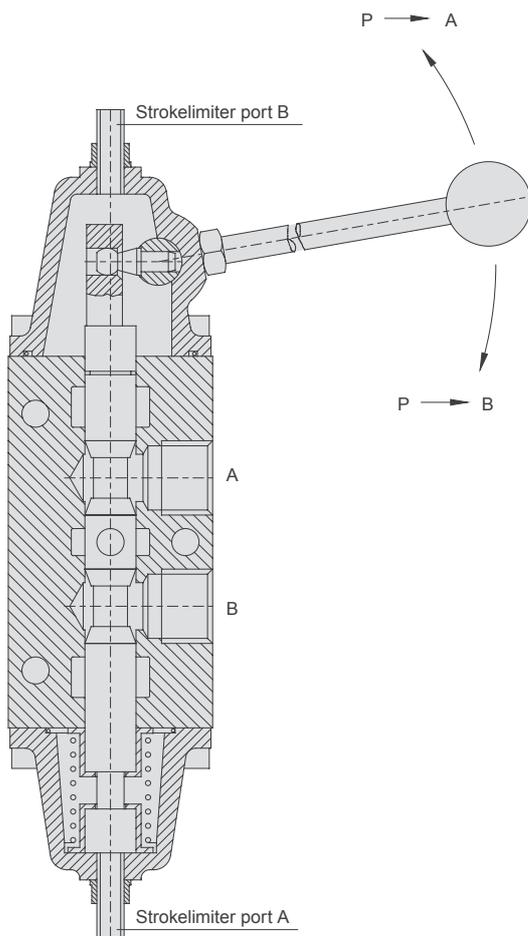

Fig. 13
Functioning of the proportional directional control valve with lever control (see fig. 13 and 14)
- The handle mechanism and the return spring chamber of the directional control spool are both provided with the used hydraulic fluid. This gives a perfect lubrication on the ball (fig. 13) or rack and pinion (fig. 14) construction for fine control of the handle mechanism.